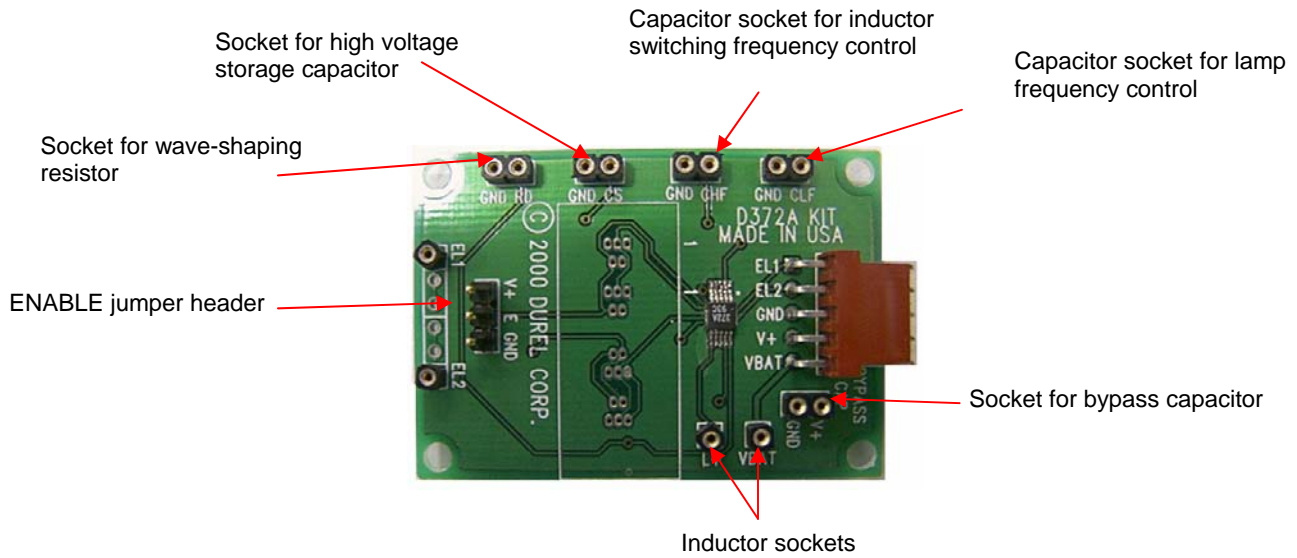

Figure 1—The D372A IC Designer's Kit Board
The Designer’s Kit Board, shown in Figure 1 below, comes with a D372A IC already soldered to the board. The Designer’s Kit Board is a useful tool for optimizing a D372A IC driver circuit for any application. Refer to the D372A IC datasheet as a guideline with sample circuits as a starting point of your design. Simply insert an appropriate value of inductor (L) and timing capacitors (CLF and CHF) into the labeled sockets, connect a high voltage storage capacitor (Cs) and your choice of wave-shaping resistor (RD) to complete your driving circuit. Additional sockets are provided in the Kit Board for a bypass capacitor between V+ and ground (GND) to absorb electrical noise in the DC input.